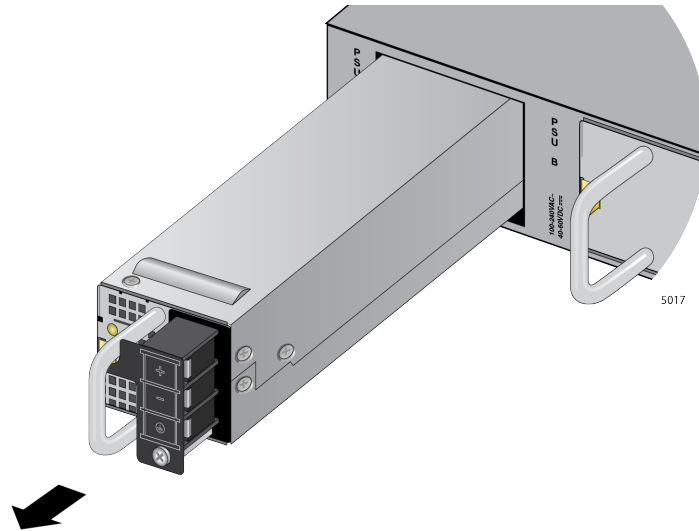

Figure 150. Front Panel of the PWR600 DC Power Supply
8. Carefully slide the power supply from the switch. Refer to Figure 150 on page 250.